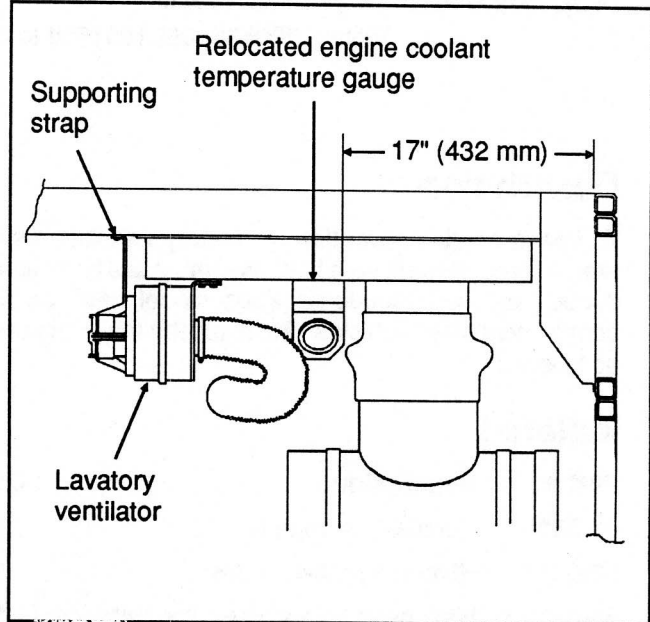

Fig. 4 - Lavatory Ventilator Setup (new model)
- c) Position the assembly as shown in figure 4, then using holes in support as guides, mark new location of mounting holes on front panel. Punch the center, then drill two 0.136" (3,5 mm) dia. holes (bit #29).
- a) Put the ventilator assembly into position (Fig. 4), and secure with three 5/16-18 x 3/4" hexagonal head screws.